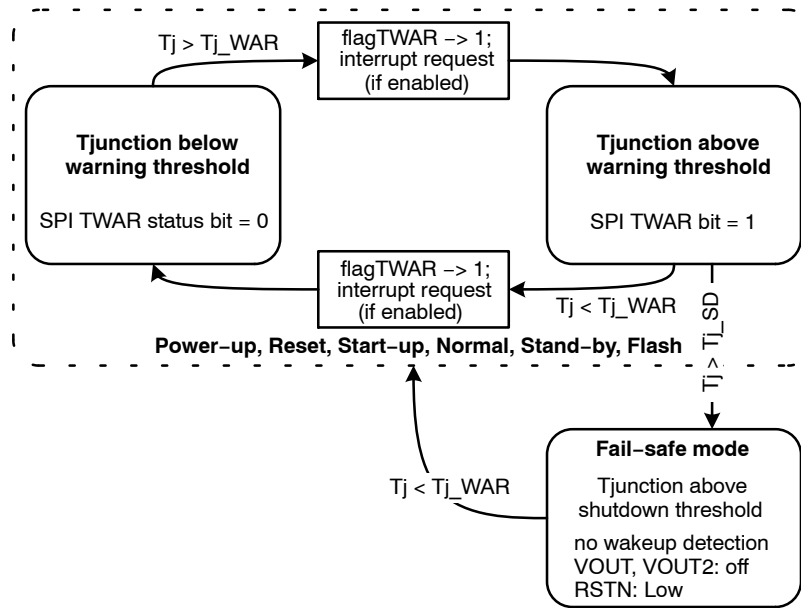

Figure 20. Junction Temperature Monitoring
The junction temperature monitoring circuit is active in all operating modes with VOUT supply switched on (Power-up, Reset, Start-up, Standby, Flash) and also in the Fail-safe, provided that it has been entered as the consequence of a thermal shut-down. The function of the junction temperature monitoring of NCV7471(A) is shown in Figure 20.